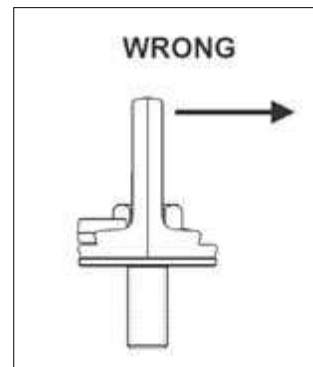

Figure 5
- Do not load in a direction perpendicular to the bail (Figure 5).